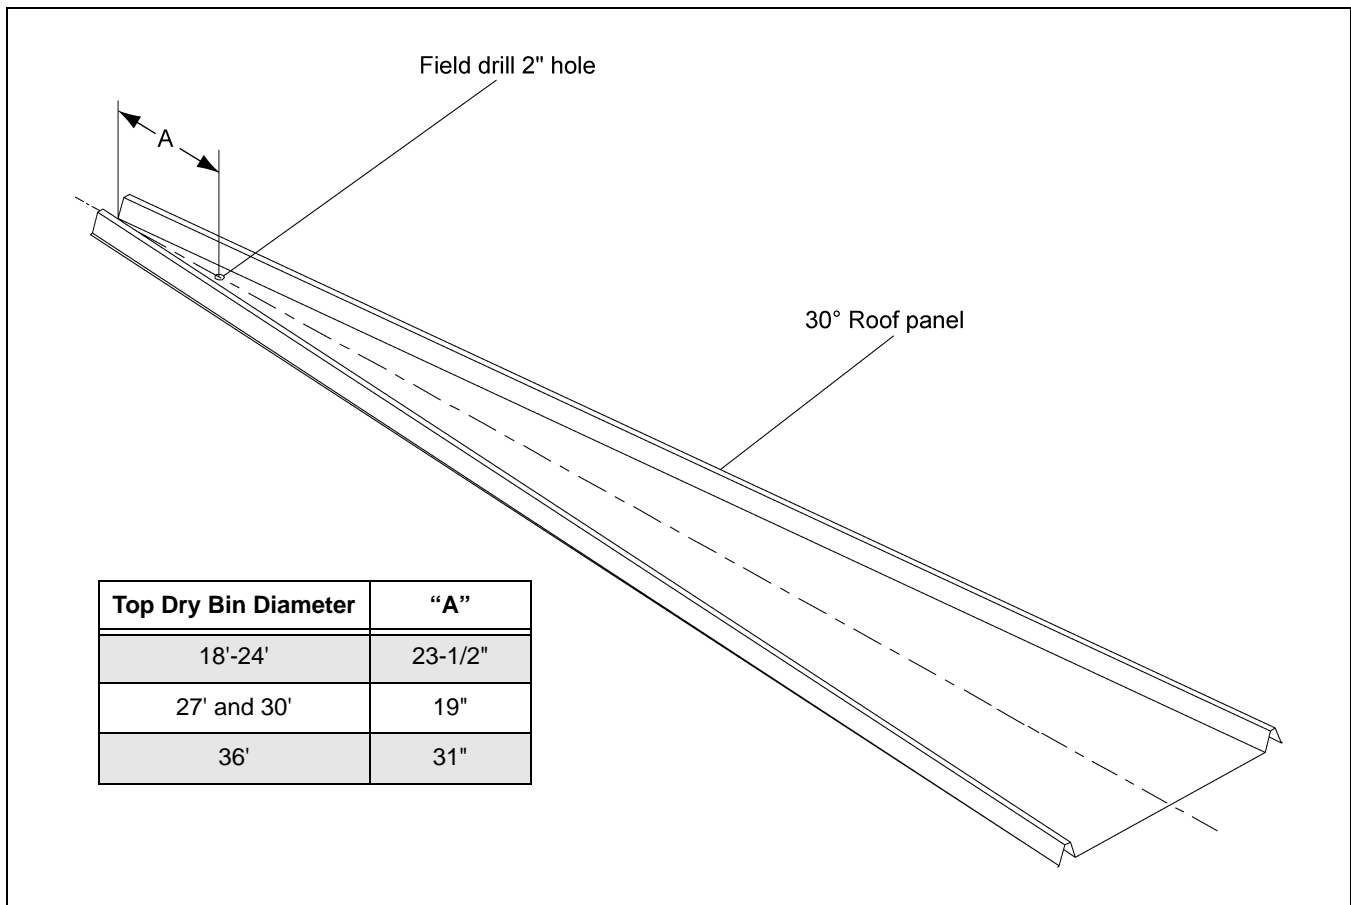
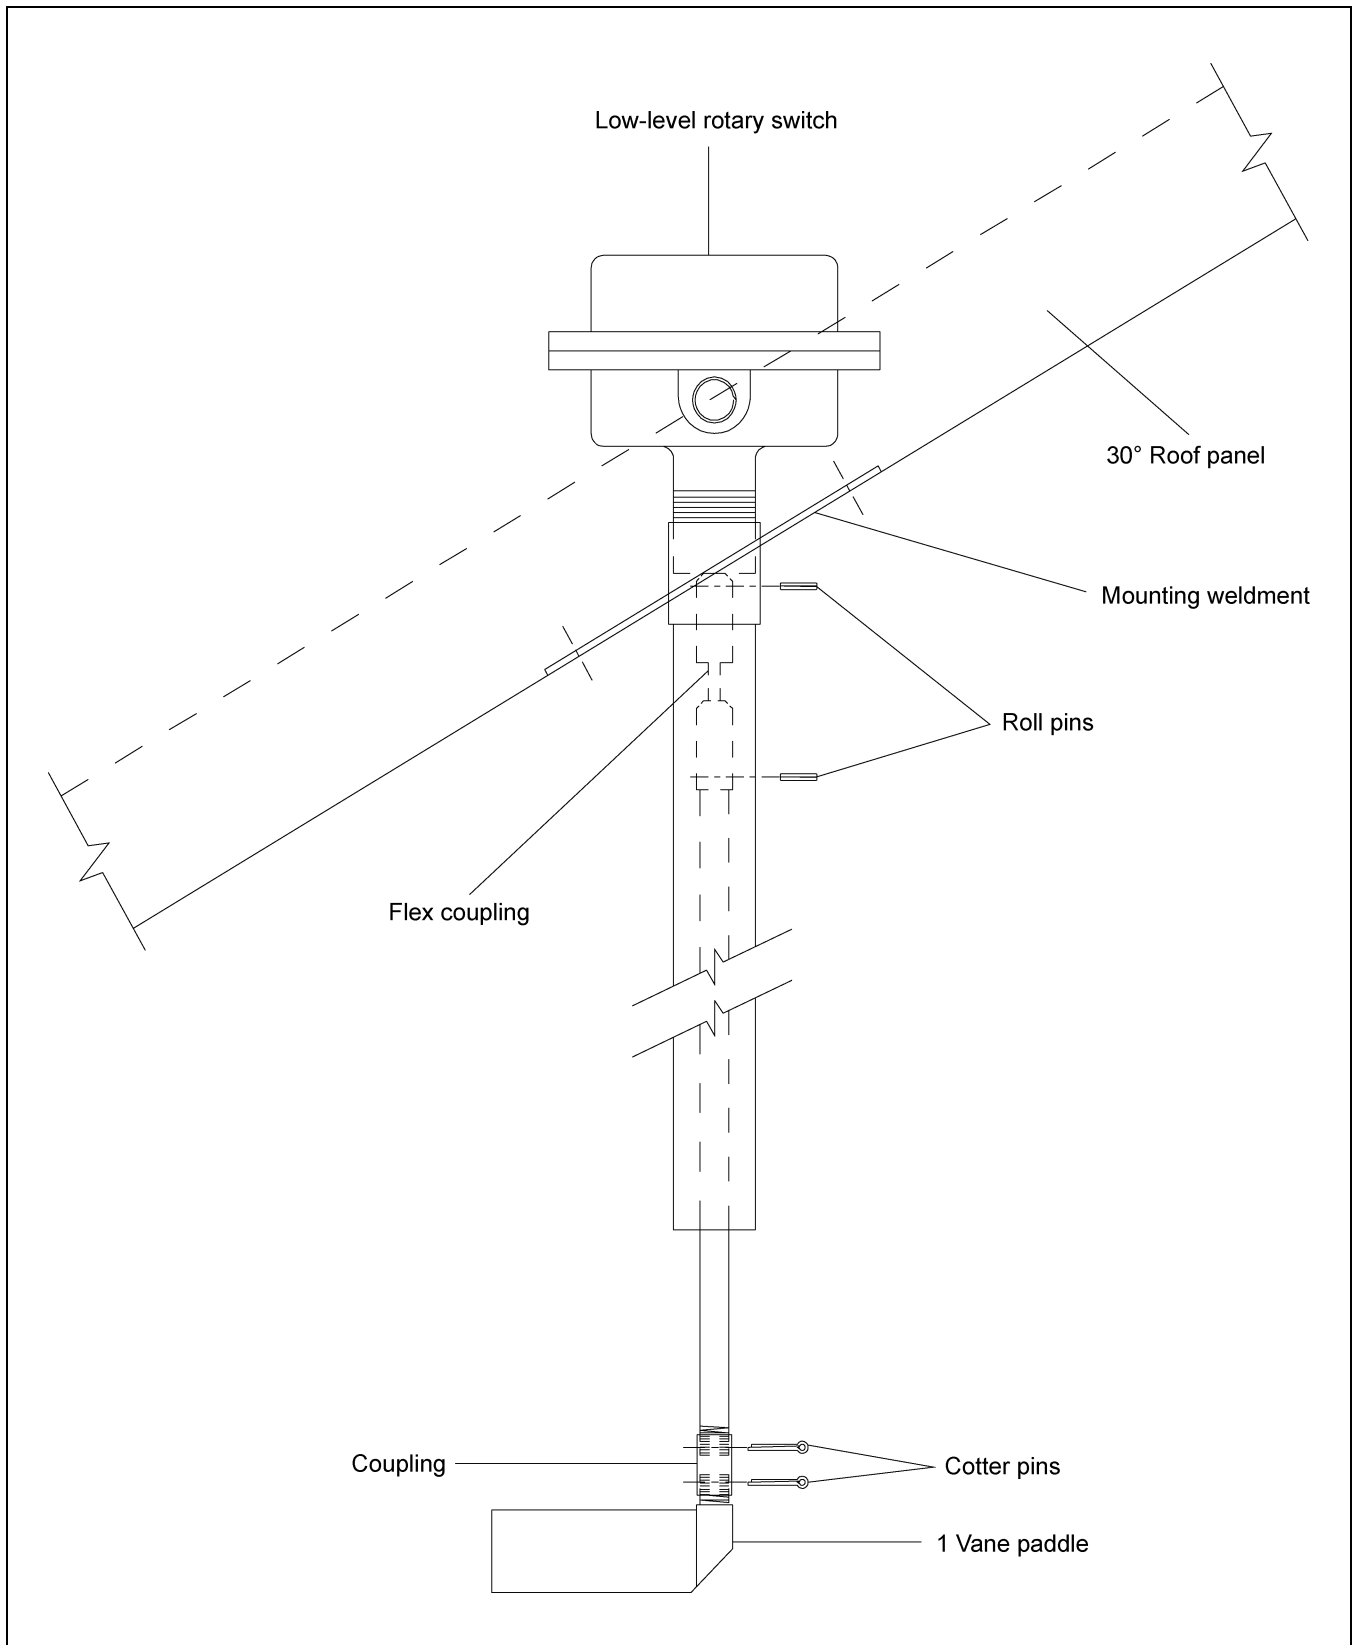
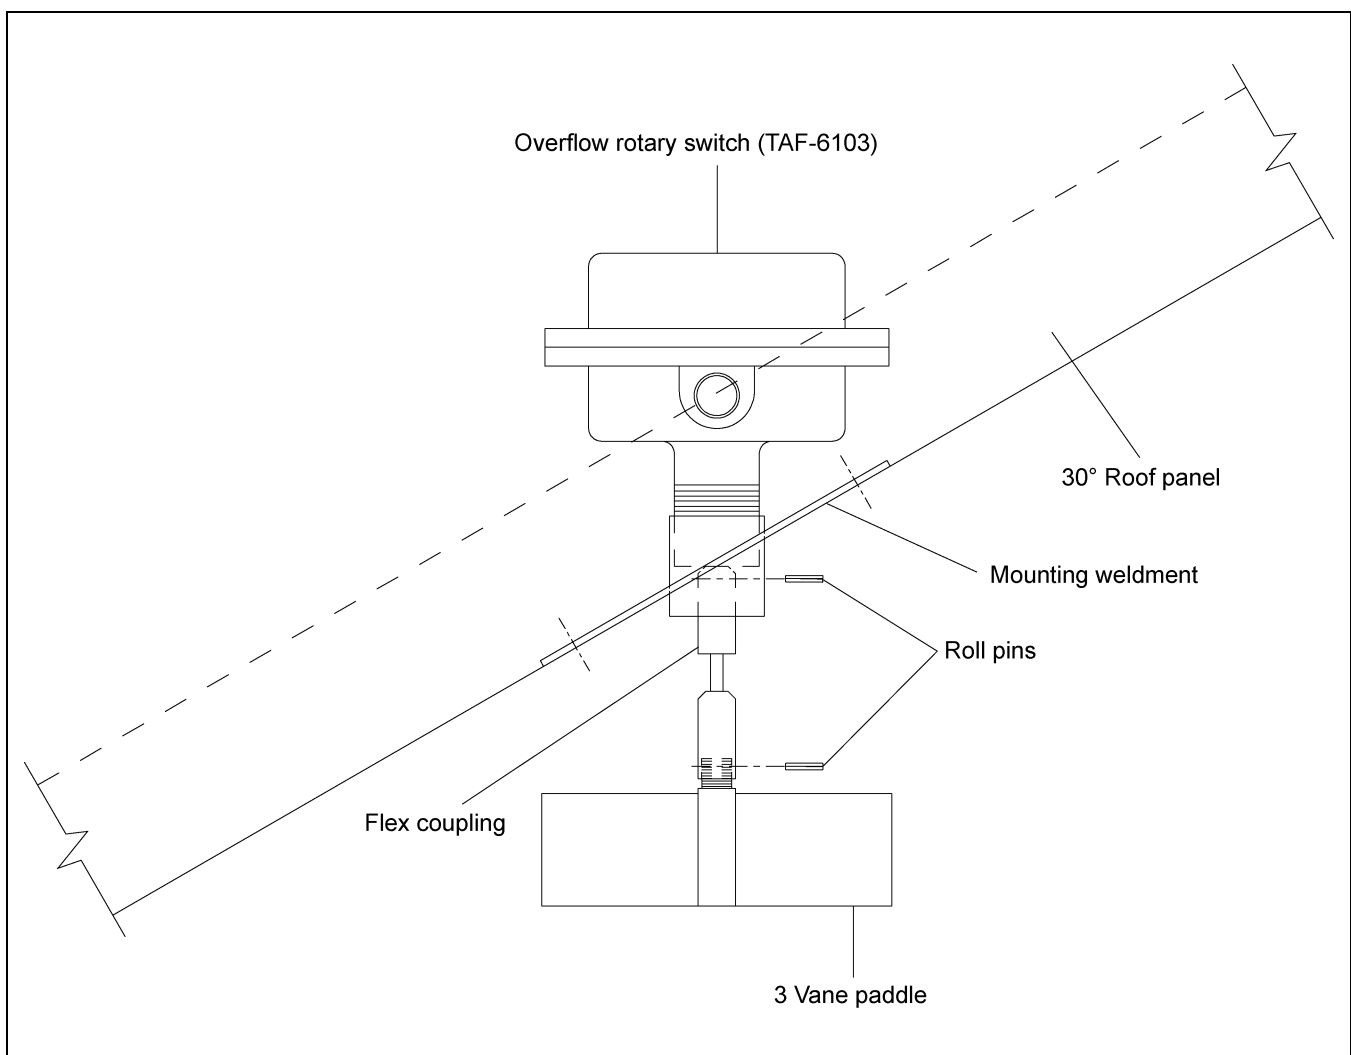

Figure 3S
Figure 3T
Figure 3V
1. Drill a 2" diameter hole through the roof panel at the location shown in Figure 3S. See component placement on Page 11 for proper placement in relation to fill auger.
2. Use the mounting plate as a pattern and drill four (4) 3/8" holes through the roof panel at the switch location so the plate can be bolted to the roof.
8. Attach the shaft extension according to Figure 3T on Page 29.
12. Attach the 1 vane paddle to the flex coupling as shown in Figure 3T on Page 29.
1. Drill a 2" diameter hole through the roof panel at the location shown in Figure 3S on Page 28. See component placement on Page 11 for proper placement in relation to fill auger.
8. Attach the 3 vane paddle to the flex coupling as shown in Figure 3V.